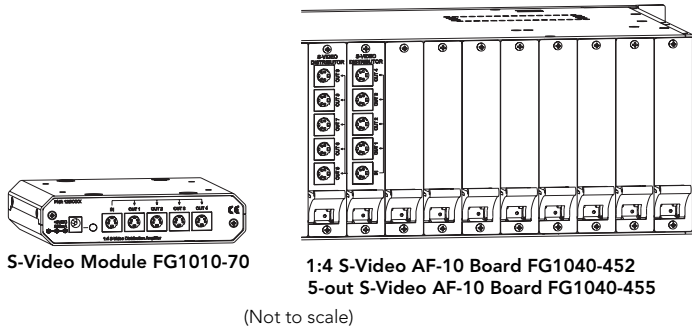

FIG. 1 S-Video DA Module & AF-10 Boards
S-Video Distribution Amplifier (DA) boards are available as either standalone distribution amplifier modules (left in FIG. 1) or as distribution amplifier accessory boards for an AF-10 (right in FIG. 1). The S-Video DA Module has one input and four outputs for a 1:4 distribution. S-Video DA boards have five S-Video connectors; either one input and four outputs that are paired with the 1:4 board to create a 1:9 distribution amplifier.